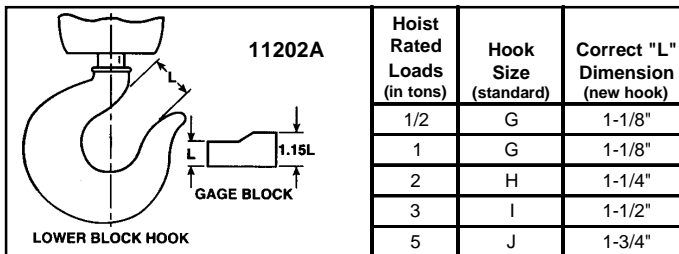

Figure 5-1. Proper Hook Opening (shown with latch removed for clarity)
- as. **DO NOT** operate hoist with hooks that have opened up. See Figure 5-1.
- f. Check throat opening of hook. (Refer to Figure 5-1.) It is recommended that upon receipt of the hoist a measurement be made and recorded of the hook throat opening. OSHA Standards require that the hook be replaced if the throat opening exceeds 15 percent of the original opening, or if the hook is twisted more than 10 degrees from the unbent plane. A gage block, properly identified to the hoist, similar to the one shown in Figure 5-1, is suggested to be made for each hook for use in these measurements.